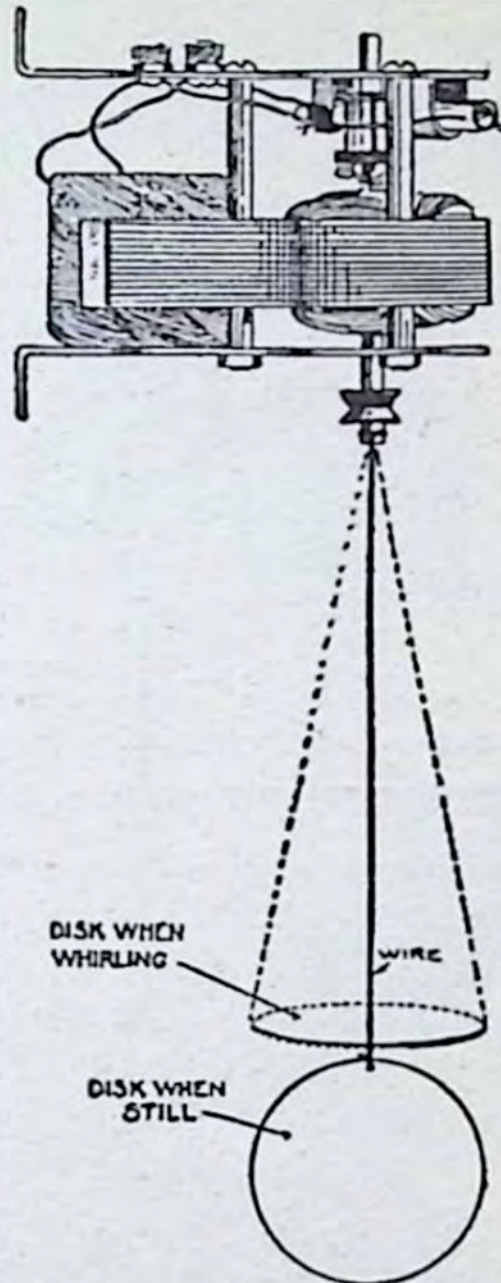

Fig. 27
(33) **THE WHIRLING DERVISH DISK:** Tie a wire to the edge of a metal disk and tie the other end of it to the shaft. Hold your motor so that the shaft is vertical and switch on the current. When it gets up to speed the centrifugal force will make the disk rise to a horizontal plane as shown in Fig. 27.